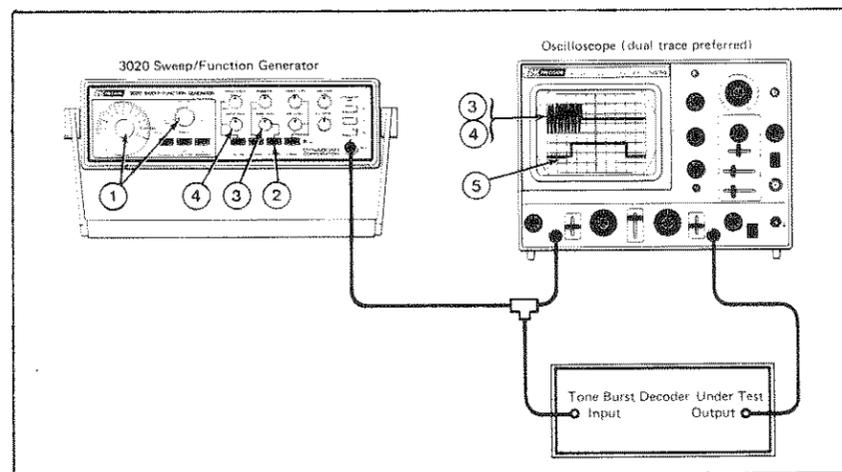

Fig. 20. Tone burst decoder testing.
1. Connect equipment as shown in Fig. 20. Set the RANGE switch and FREQ dial to the decoder's acceptance frequency. This should be found in the manufacturer's service literature, or may be marked on the unit. Use a frequency counter if a high degree of accuracy is required.
The following procedure, along with Fig. 20, describes the typical testing method for tone burst decoders: